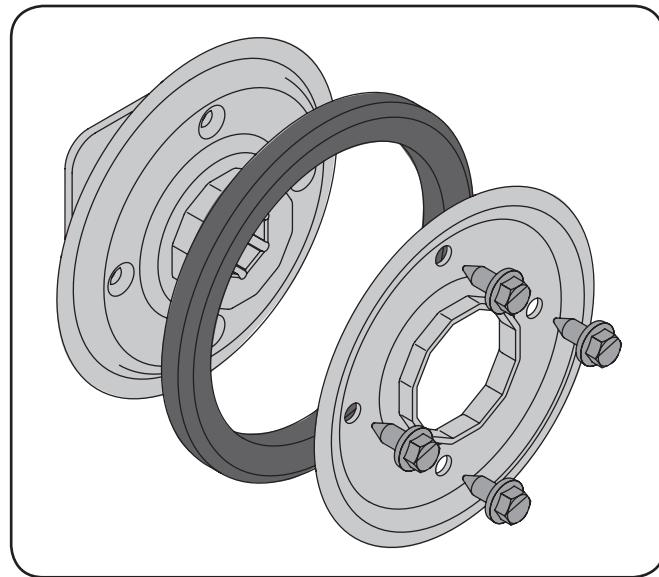

Fig. 7-12
- Remove the four screws which secure the friction wheel's side plates together. See Fig. 7-12.